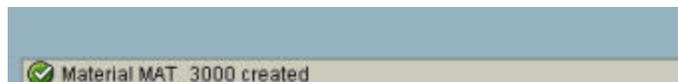

Figure 66: Confirmation message for material
10. If the material is created successfully the following message appears as shown in Figure 66.